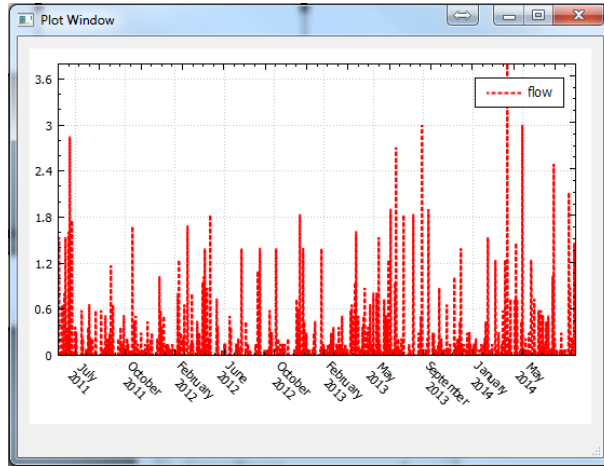

Figure 1: Precipitation time series for the build-up example
- Right-click on the box where the name of the precipitation input file is written and click on **flow** from the drop-down menu. A graph similar to what is shown in Fig 1 will pop-up.